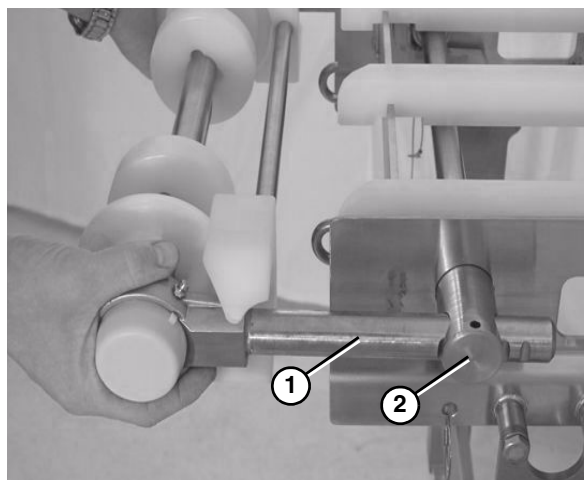

Figure 17
3. Slide the bearing shafts (Figure 17, item 1) into the holes in the tip up shaft (Figure 17, item 2).